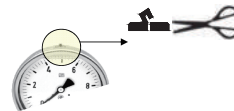

Figure 5
- 7) Do not cut off the oil cap if the gauge is being used in outdoor because water can flow into the gauge when it rains. It is recommended to release the internal pressure regularly. However, it is required to cut off the oil cap, then just cut off the tip of the oil cap as expressed in Figure 5.